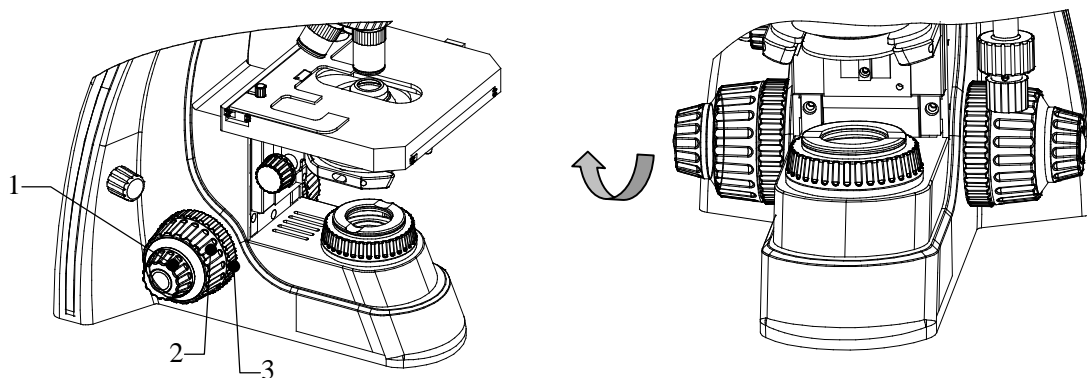

Fig.10
- (1) The control knob 1 is for fine focusing, the control knob 2 is for coarse focusing. Turn the coarse focusing control knob 2 anticlockwise to lift the objective and clockwise to lower it. As shown Fig.10
- (2) Put the 10X objective into the light path with the turn of nosepiece (When turn into the right position, the objective will has a automatic halt.).
- (3) Turn coarse control knob unit the stage in the highest position, observe through the eyepieces, slowly turn coarse control knob, with the stage slowly down, to focus until the image clear and stop turning.
- (4) Turn fine control knob to precision focus for a clearly image.
- (5) The knob 3 is to lock the stage position of height; this function is making sure the long working distance of objective not to be touched with stage or simple. When the stage be locked in the preset position with turn the coarse, you can rapidly focus the image clear.